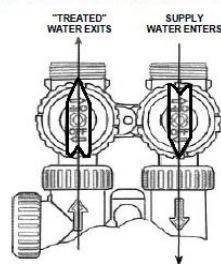

Figure 2 - Service
1. **Normal Operation Position:** The inlet and outlet handles point in the direction of flow indicated by the engraved arrows on the control valve. Water flows through the control valve for normal operation of a water softener or filter. During the regeneration cycle this position provides regeneration water to the unit, while also providing untreated water to the distribution system (**Fig. 2**).
STEP 14: Gradually turn the INLET side knob of the bypass valve counter-clockwise not more than ½ way (45 degrees) to the "Service" position (Figure 2, Page 5) allowing the unit to slowly fill with water and purge the air until only a steady stream of water flows to the drain.
STEP 15: Once the air is purged, gradually turn the INLET knob of the bypass valve counter-clockwise until it is fully in "Service" position (Figure 2, Page 5). Then turn the OUTLET knob of the bypass valve counter-clockwise until it is fully in the "Service" position (Figure 2, Page 5). and **leave the control valve in "Backwash" position for at least 10 minutes or until water flowing from the drain line runs clear; whichever is longer.**